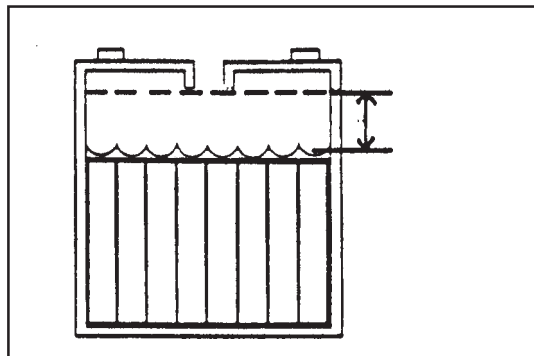

Figure 7
1. Keep the electrolyte at the correct level. The correct level is between 1/4" below the bottom of the tube in each cell and above the tops of the plates. Check the level of the electrolyte each time you charge the batteries. See figure 7.